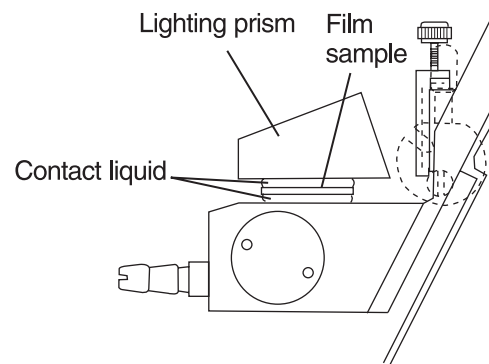

Fig. 9-10
⑤Apply contact liquid onto the upper surface of the sample put on the main prism, and put the lighting prism of the "Measuring set for film" with the polished side down on the sample (Fig. 9-10).